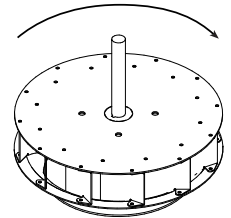

Figure 13
3. Check wheel rotation (viewing from the shaft side) by momentarily energizing the unit. Rotation should be clockwise as shown in Figure 13 and correspond to the rotation decal on the unit. If wheel rotation is incorrect, reverse two of the wiring leads or check motor wiring for single phase. Fan RPM should be checked and verified with a tachometer.
3. Start the fan and shut it off immediately to check rotation of the wheel with directional arrow in the motor compartment, reference Figure 13.